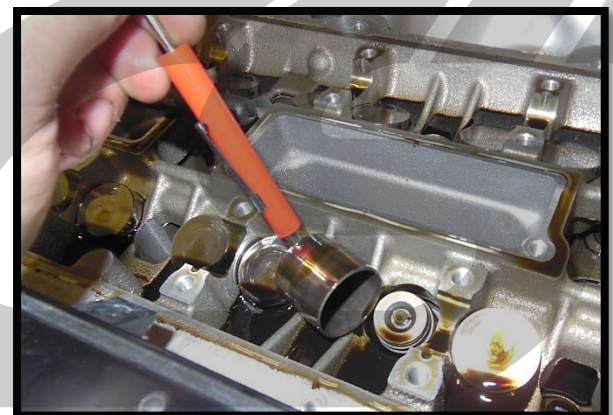

Figure 4c
- e) Use a small clean magnet to remove the tappets that are out of clearance according to the specifications listed above and on the next page (Figure 4c).